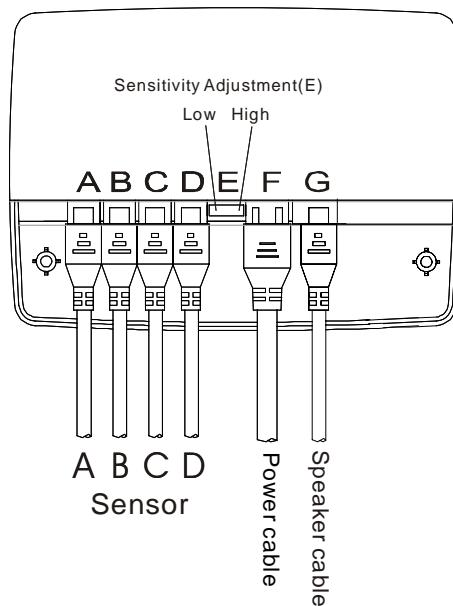

Figure 4
1. Plug the sensor wires, speaker and power harness into the control module before mounting. The sensor must be plugged into the corresponding socket (see Figure 4). The control module is pre-fitted with Velcro for mounting.
2. The Sensitivity Adjustment (E) setting controls the sensitivity of the sensors. The unit is shipped in the high setting. To lower the sensitivity, pull the jumper off the middle/right post and place it over the left/middle post.